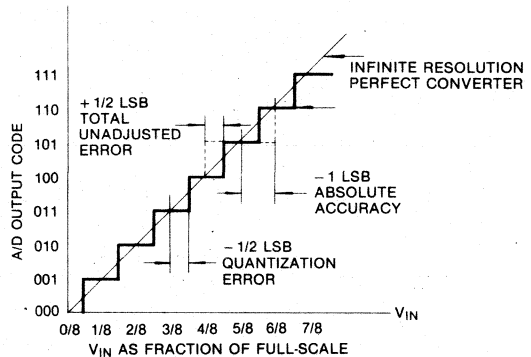

Fig. 3 3-Bit A/D Absolute Accuracy Curve
**Note 5:** Total unadjusted error includes offset, full-scale, linearity, and multiplexer errors. See Figure 3. None of those A/Ds requires a zero or full-scale adjust. However, if an all zero code is desired for an analog input other than 0.0V, or if a narrow full-scale span exists (for example: 0.5V to 4.5V full-scale) the reference voltages can be adjusted to achieve this. See Figure 13.